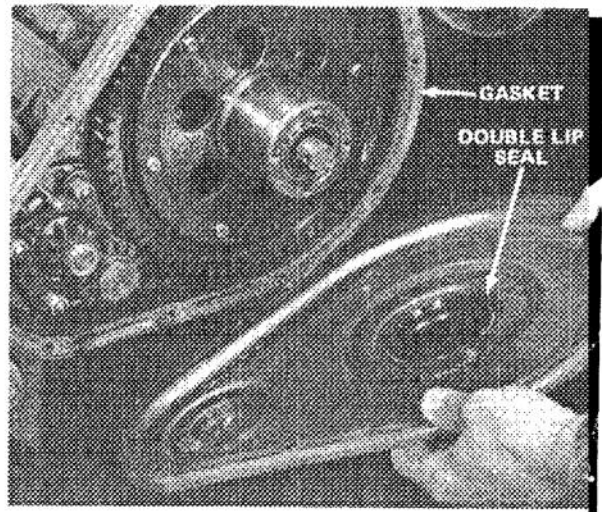

Figure 23
5. Separate cover from gearcase and allow oil to drain. Remove cover and discard gear case gasket (Fig. 23).
6. Remove double lip seal (Fig. 23) from cover if worn or damaged. The ring gear hub and gear assembly can be removed from axle shaft as soon as gear case cover is removed.